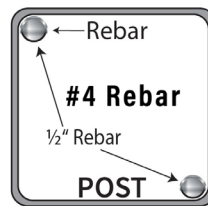

Fig.3a
1. Each end, corner or gate post takes 2 pieces of  $\frac{1}{2}$ " diameter rebar cut 4" shorter than the post length located at opposing corners of post (Fig. 3a).